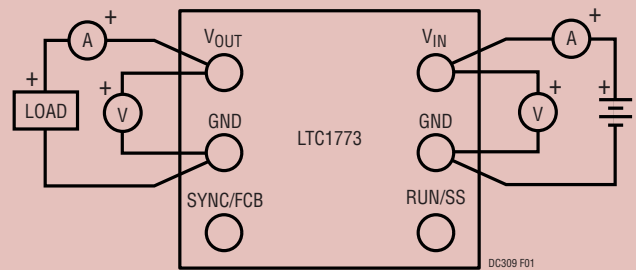

Figure 2. Proper Measurement Setup
6. Connect the load between the  $V_{OUT}$  and GND terminals. Refer to Figure 2 for proper measurement equipment setup.